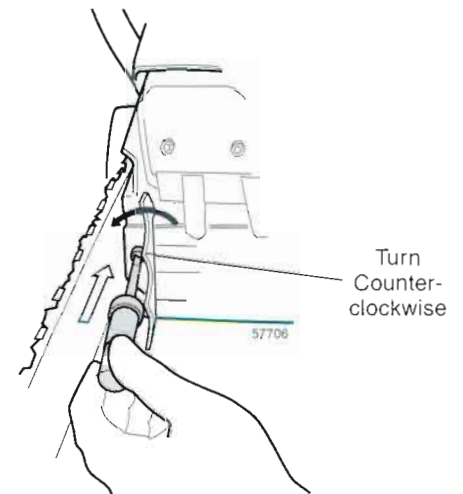

Figure 6.6 Loosen the Saw Chain
STEP 3. Loosen the saw chain (Figure 6.6), and then remove both the saw chain and guide bar.